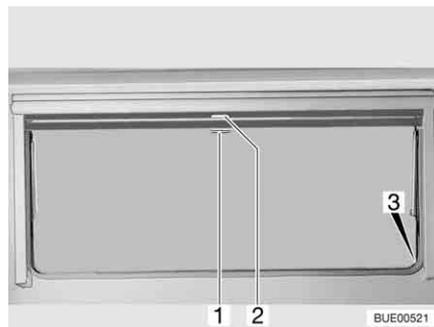

Fig. 53 Hinged window
- Pull blind at the handle (Fig. 53,2) downwards. If the blind is to be completely closed, it is suspended into the locking devices (Fig. 53,3) situated on both sides of the window frame.
- If the blind is completely closed: Press handle (Fig. 53,2) downwards and, at the same time, tilt it slightly inward. The blind can be taken out of the locking devices situated on both sides of the window frame.
- If the blind is in an intermediate position: Pull the handle (Fig. 53,2) slightly downwards until the locking device releases.
Closing: ■ Pull insect screen at the handle (Fig. 53,1) down and hang it into the locking devices (Fig. 53,3) situated on both sides of the window frame.
Opening: ■ Press handle (Fig. 53,1) downwards and, at the same time, tilt it slightly inward. The insect screen can be taken out of the locking devices situated on both sides of the window frame.